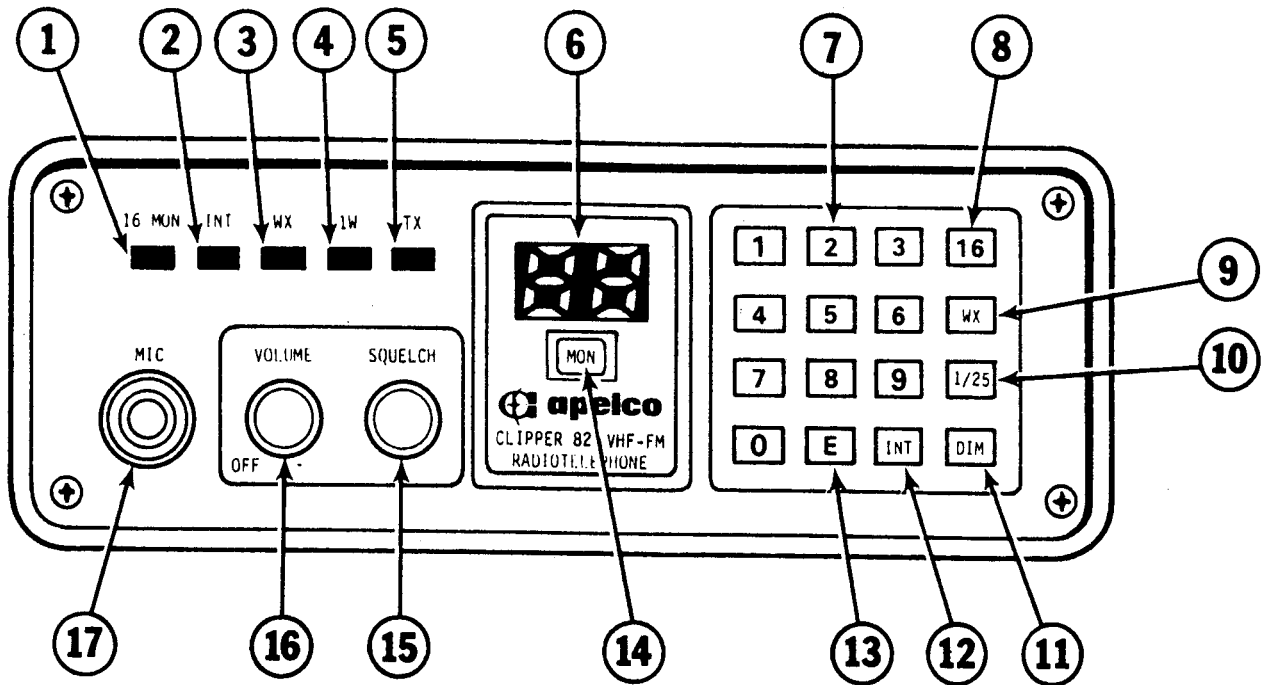

Figure 3-1 CLIPPER 82 Front Panel Controls, Indicators and Jack
Refer to Figure 3-1 for familiarization with the following controls and indicators.
- 1) 16 MON Indicator (1, Fig. 3-1)
When illuminated, indicates that the MON pushbutton switch (14, Fig. 3-1) has been pressed. When the MON pushbutton switch has been pressed, the receiver scans between safety and calling channel 16 and the indicated channel at a one second rate until a signal great enough to break squelch is received (the transmitter is locked out in the 16 MON mode).
- 2) INT Indicator (2, Fig. 3-1)
When keyboard INT pushbutton switch (12, Fig. 3-1) is pressed, the INT lamp illuminates, indicating the synthesizer will program only international frequency assignments. When INT is not illuminated, the synthesizer programs only U.S. frequency assignments.
- 3) WX Indicator (3, Fig. 3-1)
Illuminates when WX key (10, Fig. 3-1) has been pressed, to indicate that one of the weather channels is to be monitored.
- 4) 1 W Indicator (4, Fig. 3-1)
The 1W indicator goes on when the 1/25 keyboard pushbutton (11, Fig. 3-1) is pressed. When 1 W is not illuminated, the transmitter is set for 25 watts output.
- 5) TX Indicator (5, Fig. 3-1)
- 6) Channel No. Indicator LEDS (6, Fig. 3-1)
- 8) 0-9 Key Pushbuttons (7, Fig. 3-1)
Used to select communication channels when followed by pressing E (entry) key (14, Fig. 3-1).
- 9) 16 Key Pushbutton (8, Fig. 3-1)
- 10) WX Key Pushbutton (9, Fig. 3-1)
- 11) 1/25 Key Pushbutton (10, Fig. 3-1)
Selects either one watt or 25 watts power output to the antenna. When 1W indicator (4, Fig. 3-1) is illuminated, approximately one watt of power is applied to the antenna. When the 1W indicator (4, Fig. 3-1) is not illuminated, full transmitter power is applied to the antenna.
- 12) DIM Key Pushbutton (11, Fig. 3-1)
- 13) INT Key Pushbutton (12, Fig. 3-1)
When pressed, causes the synthesizer to program only international channel frequencies and illuminates the INT indicator (2, Fig. 3-1). Pressing again will return to U.S. operation.
- 14) E Key Pushbutton (13, Fig. 3-1)
- 15) MON Pushbutton Switch (14, Fig. 3-1)
When pressed, illuminates the 16 MON indicator (1, Fig. 3-1) and causes the synthesizer to scan the distress channel 16 and a previously selected channel at a one second rate. The scanning stops when a signal is great enough to exceed the squelch level. If that channel is the selected one, reception will be interrupted every three seconds to check channel 16 (priority channel) for a signal. (The transmitter is inhibited during this mode.)
- 16) SQUELCH Control (15, Fig. 3-1)
- 17) OFF/VOLUME Control (16, Fig. 3-1)
- 18) MIC Connector (17, Fig. 3-1)
1. Connect antenna to ANTENNA Jack J101 (1, Fig. 3-2), microphone to MIC Jack J102 (17, Fig. 3-1) and DC power cable to POWER DC 13.6V Jack J103 (3, Fig. 3-2).
2. Turn OFF/VOLUME control (16, Fig. 3-1) half a turn clockwise to turn radio on.
3. Rotate SQUELCH control (15, Fig. 3-1) until speaker noise is audible.
6. Set transmitter power (10, Fig. 3-1) to either the 1W or 25W position (illuminated is 1W) depending on the distance the message is to be transmitted and transmitting conditions. In U.S. harbors, the FCC requires power be limited to one watt.